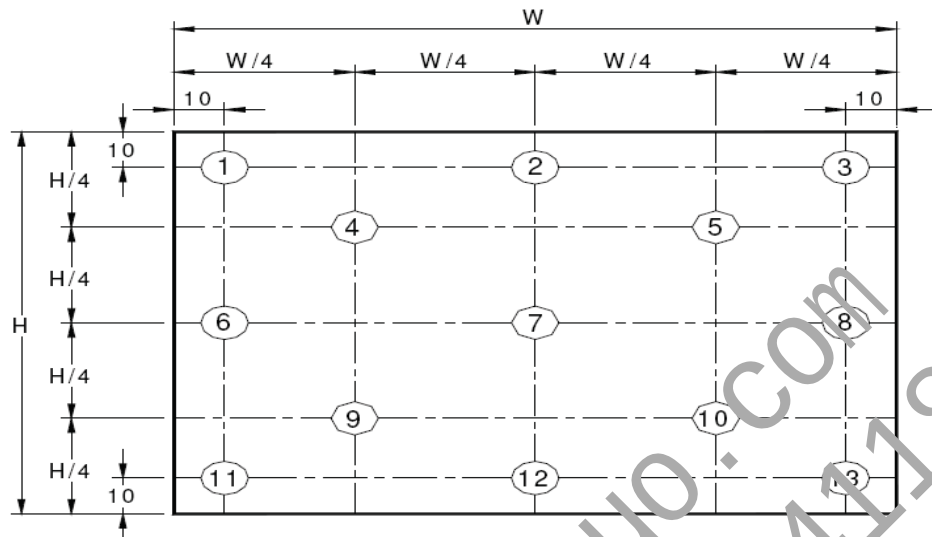

Figure 9. Uniformity Measurement Locations (13 points)
Notes : - Viewing angle is the angle at which the contrast ratio is greater than 10. The viewing angles are determined for the horizontal or 3, 9 o'clock direction and the vertical or 6, 12 o'clock direction with respect to the optical axis which is normal to the LCD surface (see Figure 7). - Contrast measurements shall be made at viewing angle of $\Theta = 0$ and at the center of the LCD surface. Luminance shall be measured with all pixels in the view field set first to white, then to the dark (black) state . (see Figure 7) Luminance Contrast Ratio (CR) is defined mathematically. $CR = \frac{\text{Luminance when displaying a white raster}}{\text{Luminance when displaying a black raster}}$ - Center Luminance of white is defined as luminance values of 5 point average across the LCD surface. Luminance shall be measured with all pixels in the view field set first to white. This measurement shall be taken at the locations shown in Figure 8 for a total of the measurements per display. - The White luminance uniformity on LCD surface is then expressed as : $\Delta Y = \text{Minimum Luminance of 5(or 13) points} / \text{Maximum Luminance of 5(or 13) points.}$(see Figure 8 and Figure 9). - The color chromaticity coordinates specified in Table 5 shall be calculated from the spectral data measured with all pixels first in red, green, blue and white. Measurements shall be made at the center of the panel. - The electro-optical response time measurements shall be made as Figure 10 by switching the “data” input signal ON and OFF. The times needed for the luminance to change from 90% to 10% is T_r, and 10% to 90% is T_f. - Cross-Talk of one area of the LCD surface by another shall be measured by comparing the luminance (YA) of a 25mm diameter area, with all display pixels set to a gray level, to the luminance (YB) of that same area when any adjacent area is driven dark. (See Figure 11).
The White luminance uniformity on LCD surface is then expressed as : $\Delta Y5$ = Minimum Luminance of five points / Maximum Luminance of five points (see Figure 8), $\Delta Y13$ = Minimum Luminance of 13 points / Maximum Luminance of 13 points (see Figure 9).